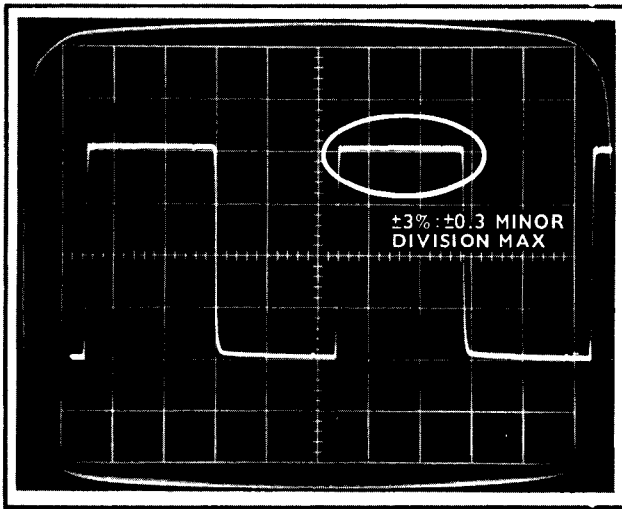

Fig. 5-8. Correct high frequency transient response. ≈ 400 kHz at 0.5 ms/div and 10 mV/div.
Set the oscilloscope time-base Time/Div switch to .5 μ sec and obtain a stable triggered display that is like Fig. 5-8. The display should be the same for all three positions of the Type 3A5 Input Coupling switch.
c. If using a Type 105 Square-Wave Generator, put two 10 \times attenuators on the Output connector and then feed the 50 Ω cable and Type 3A5 50 Ω termination. The display must be the same as Fig. 5-8 with limits as above.